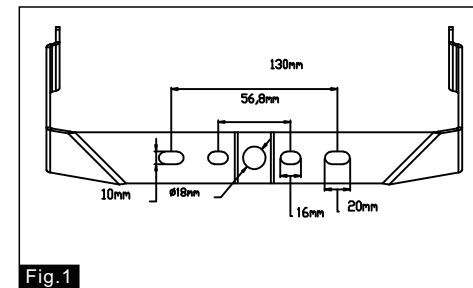

Fig. 1
1. Mount fixture to surface according to the hole pattern (Fig.1).